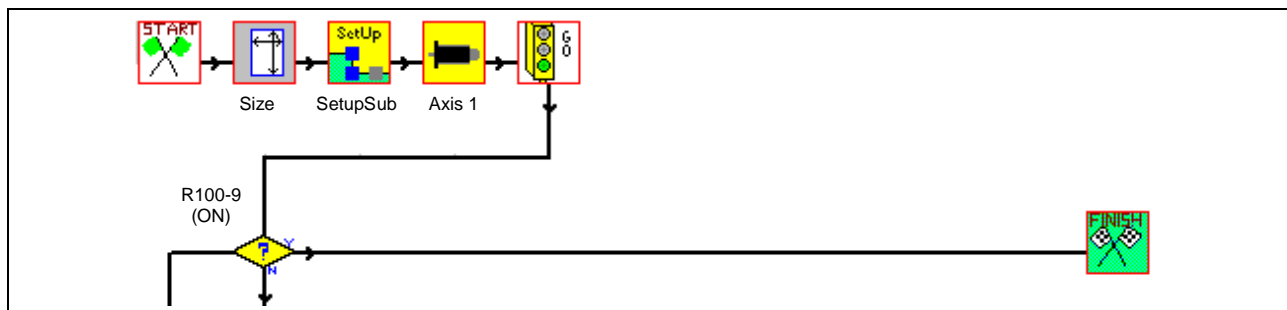

Fig. 3-7: Program Setup
The section in Fig. 3-7 starts the program, allocates memory space for variables and sets up axis 1. A setup subroutine is then executed. The Go icon enables axis 1 for non-coordinated motion. The branch icon continues the program if register 100 bit 9 = 0. If the bit is high (1), the program will end.